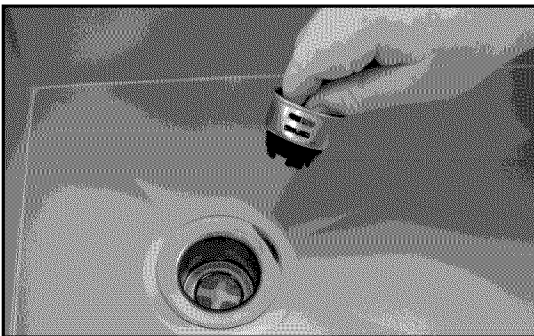

Fig. 43
2. Insert drain plug into the drain hole Fig. 43.